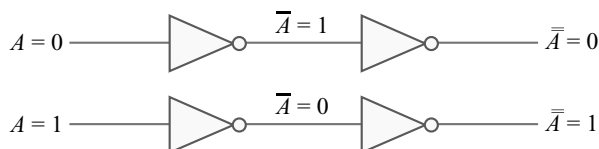

Fig. 24.45
**Theorem 9.** ( $\overline{\overline{A}} = A$ ). This theorem states that if a variable  $A$  is complemented twice, the result is the variable itself. Starting with  $A$  and inverting (complementing) it once gives  $\overline{A}$ . Inverting it once more gives  $A$  — the original value. This theorem is illustrated in Fig. 24.45.